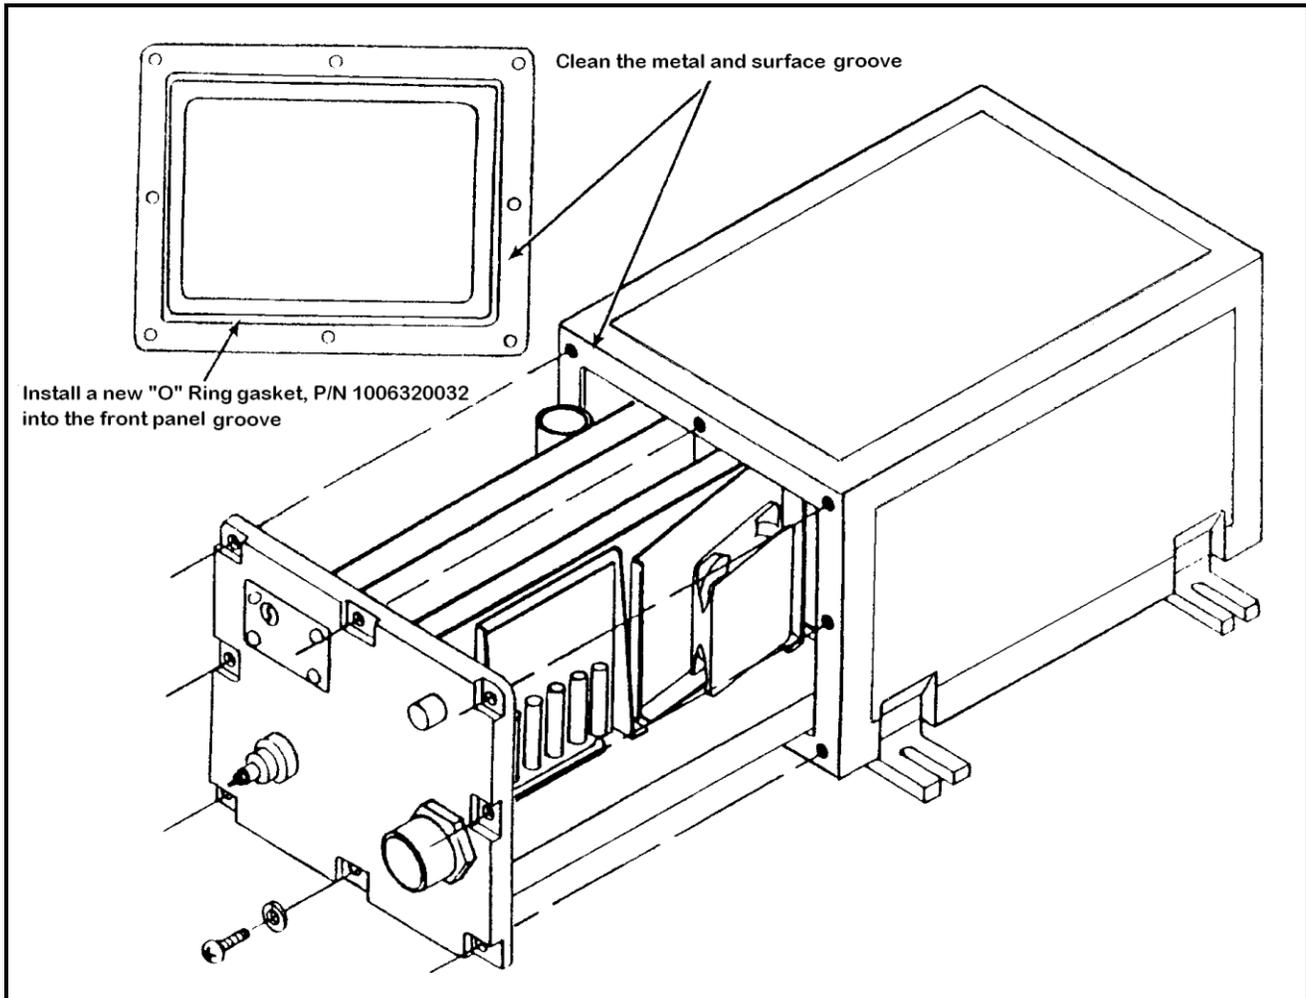

Figure 5.1 CU-9125 Antenna Coupler Cover Removal.
1. The complete outside of the coupler unit should be washed with fresh water every two (2) weeks.
2. Once a year open the coupler unit and remove the old gasket. Clean the metal surface and groove in the front panel. Clean the metal surface on the case. Install a new "O" Ring Gasket P/N 1006320032 into the front panel groove and reassemble coupler unit. See Figure 5.1.
**NOTE:** If upon completion of the Performance Test Procedures, the CU-9125 is not operating properly, accomplish the following alignment procedures. Remove Antenna Coupler from case, see Figure 5.1.